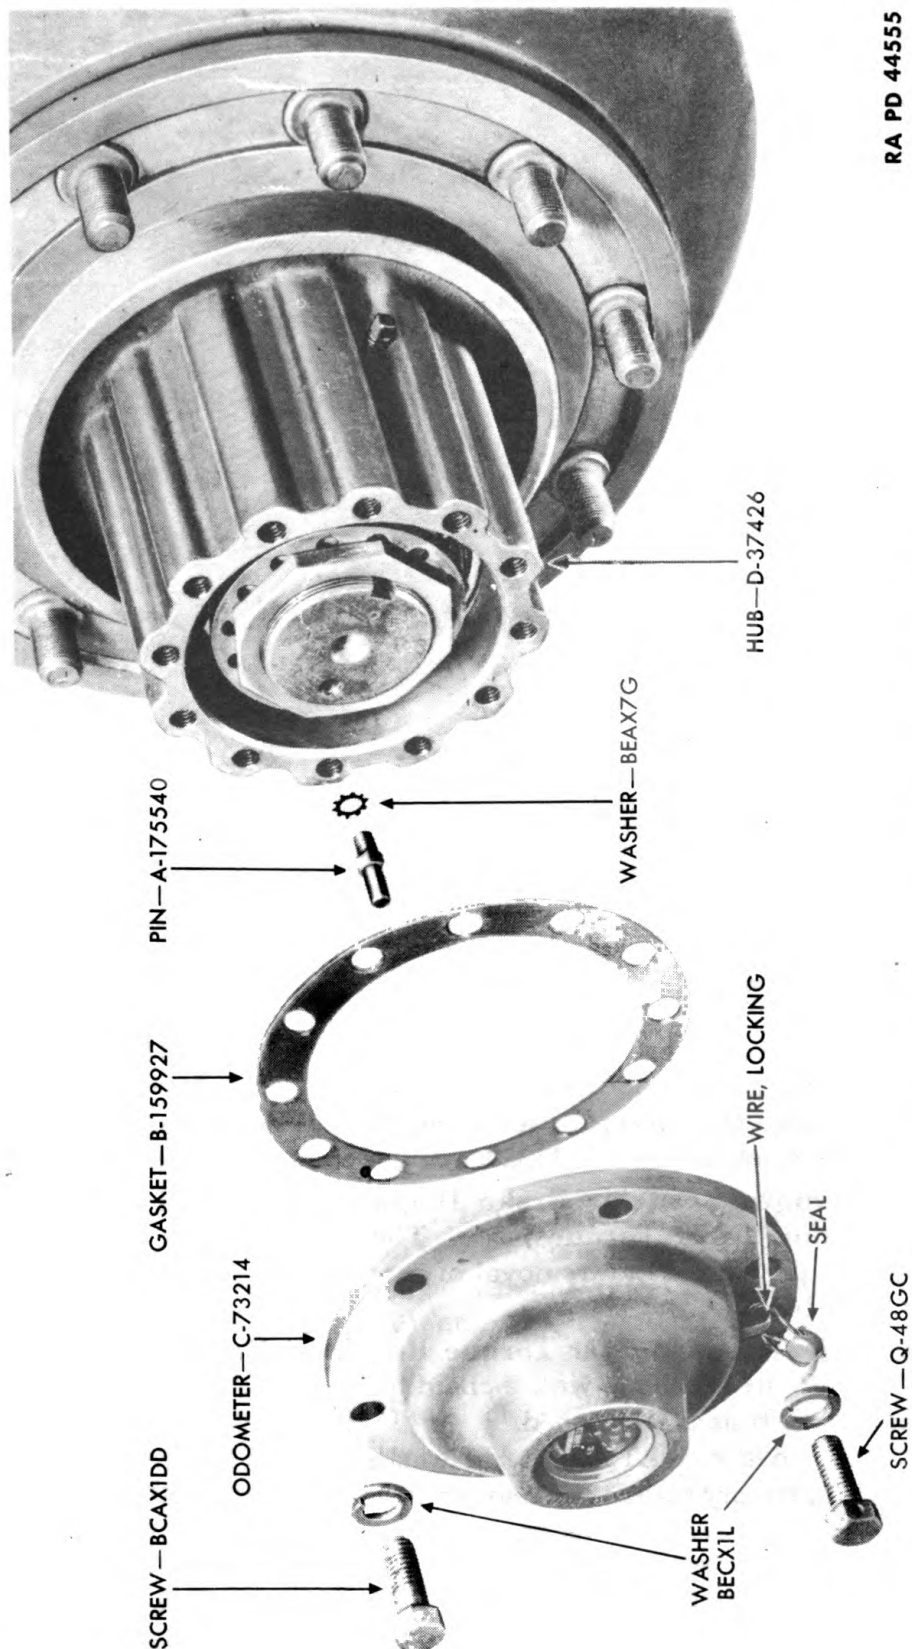

Figure 265—Wheel Hub and Odometer
b. **Remove Right and Left Dual Wheels.** The procedure for removing the dual wheels from bogie arch axle is the same as that for removing dual wheels from bogie straight axle (par. 71 a, b, and c, TM 9-335 or par. 54 a (1), (2), and (3), TM 9-350).
(1) The procedure for removal of left rear wheel hub and drum assembly from bogie arch axle is same as that for removing the wheel hub and drum assembly from the bogie straight axle (par. 71 d, TM 9-335 or par. 54 a (4), TM 9-350).
(2) The procedure for removal of right rear wheel hub and drum assembly is similar, except that it is necessary to remove odometer pin A175540 (fig. 265).